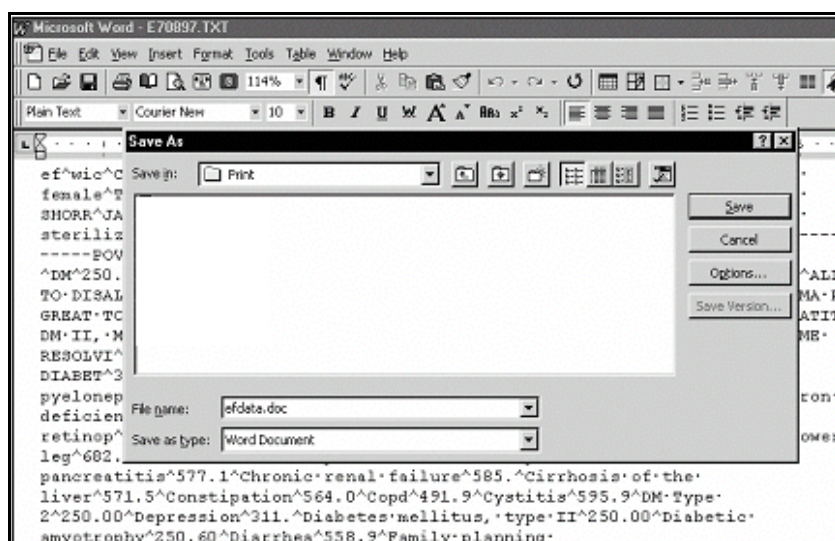

Figure 6-55: Check The Print Server, Step 3
3. Save the file as a Word document with the name efdata.doc (Figure 6-55). Click the File option and click the Save As option.